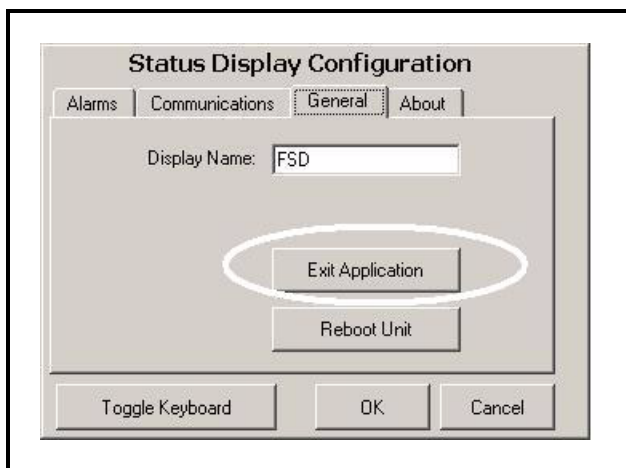

Figure 5-10 - General FSD Information Screen
2. Select the General tab and touch the **Exit Application** button (*Figure 5-10*).